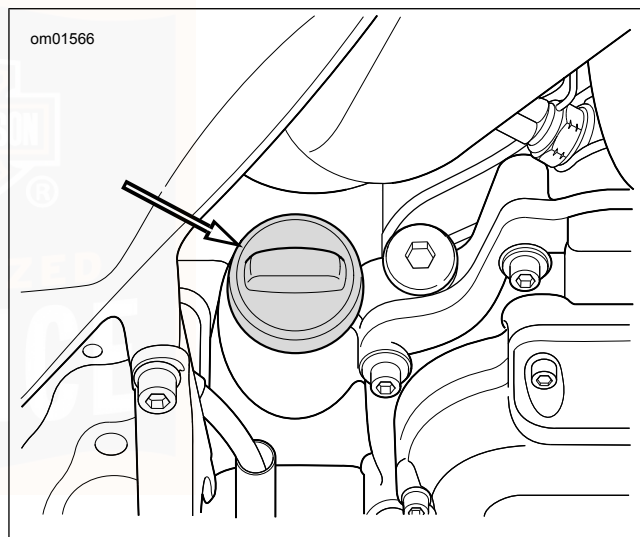

Figure 62. Engine Oil Filler Plug
2. See Figure 62. Remove filler plug/dipstick. Wipe off the dipstick. Insert the dipstick and tighten into the fill spout.
3. See Figure 62. Remove filler plug/dipstick and wipe off the dipstick. Insert the dipstick and tighten into the fill spout.